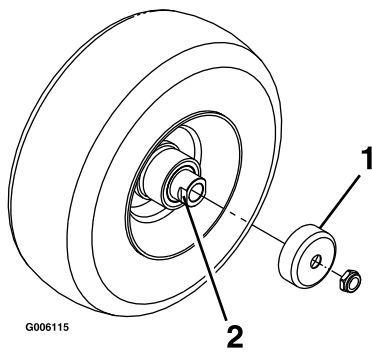

Figure 33
4. Remove the seal guards from the wheel hub (Figure 33).